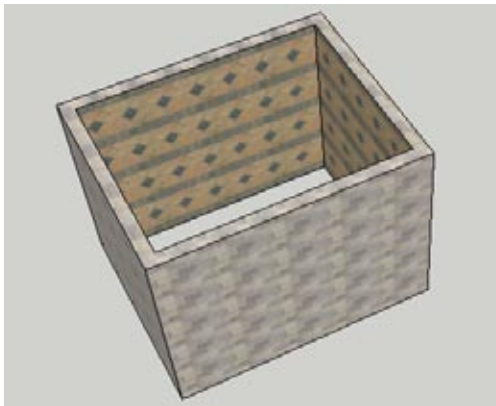

Figure 7-49
- In blank space, create a box and offset the top face so that the walls are thicker than 5.5 inches. Push down the center of the box to create the 3D walls (Figure 7-49). (You could also create a rectangle and offset it, and then pull up the resulting border face.)